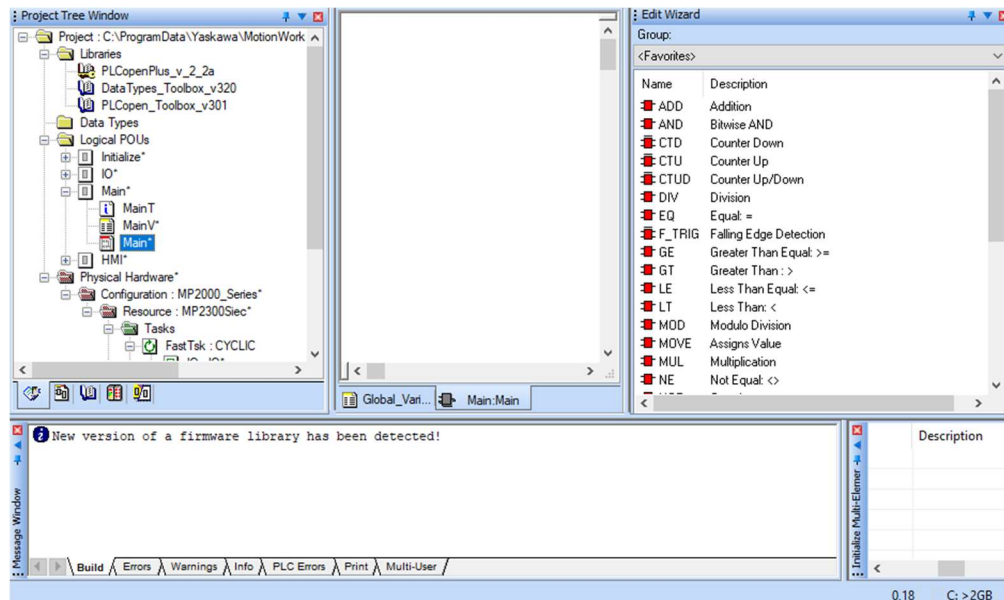

Figure 1: MotionWorks Workspace
- Open MotionWorks IEC and it should look like Figure 1. We are going to now create the blocks necessary for Axis motion.
- On the left side of the screen in the Project Tree Window, navigate to Project > Logical POUs > Main > Main and double click it as highlighted in Figure 1 to get to the correct workspace.